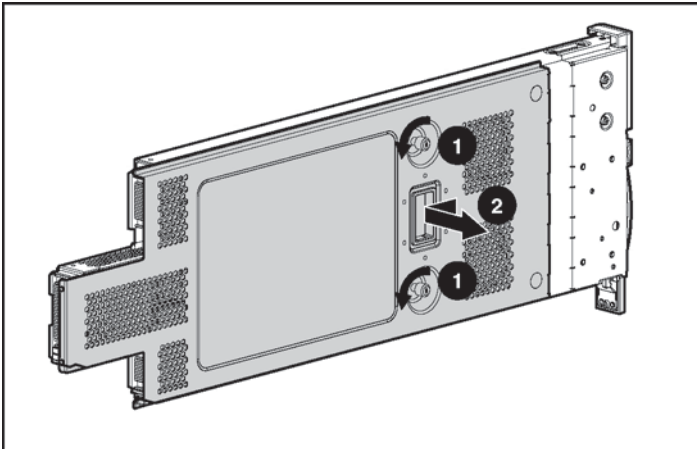

Figure 4 Removing the cover of an Interconnect switch
3. Remove the cover of the Interconnect switch by loosening the thumbscrews (see Figure 4).